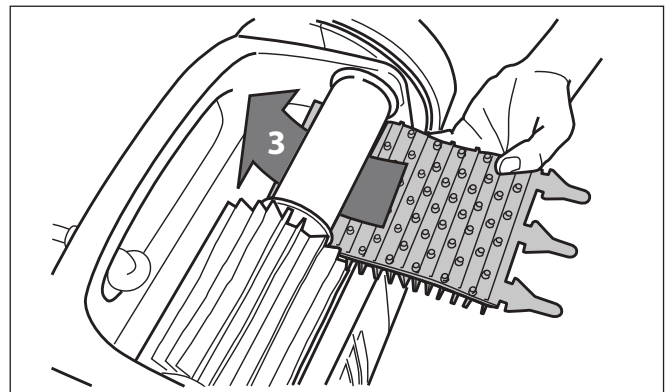

Figure 22. Install the New Brush
- To install the new brush, position the new brush on the roller with the cleaning blades facing away from the roller (Figure 22).